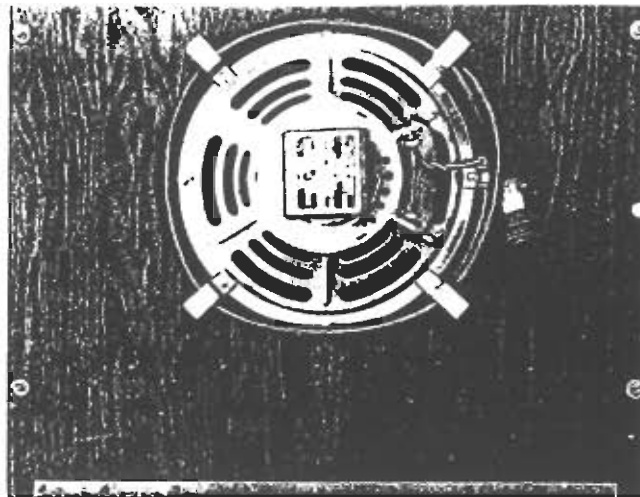
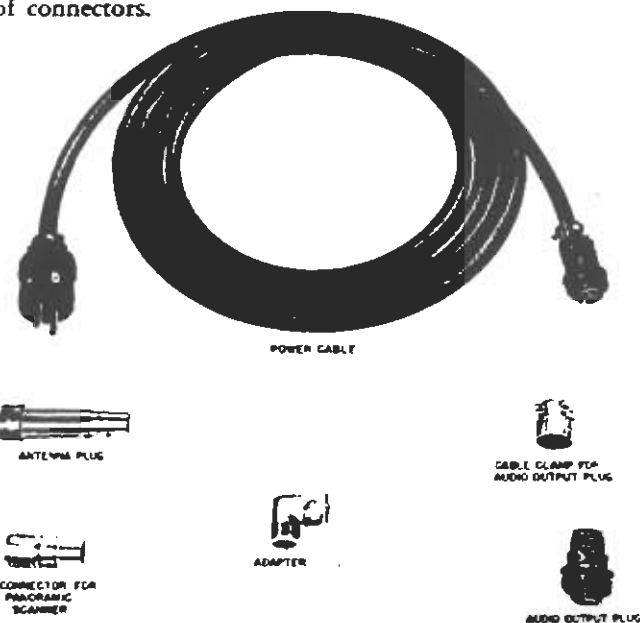

Figure 1-4. Loudspeaker LS-171/U.
Figure 1-5. Accessory Components.
(3) LOUDSPEAKER LS-171/U (See figure 1-4) is a 10 inch diameter cone, permanent magnet type speaker, rated at 5 watts average output. It mounts permanently in Case CY-851/TRR-5.
(4) CABLES.—Cables carried in Case CY-851/TRR-5 consist of a 10 foot Power Cable Assembly for connecting power from an external source to Radio Receiver R-366/TRR-5, and a 6 foot Cable Assembly for connecting the audio output to the Loudspeaker LS-171/U.
(5) Three connectors J-301, J-302, J-303 and an adapter E-301 are carried in the transit case. Connector J-301 is used to connect an antenna to the ANTENNA INPUT jack, J-101. Connector J-302 is used to connect a panoramic type analyzer to jack J-102, adapter E-301 may be used in conjunction with connector J-302 if found necessary. Connector J-303 is provided for alternate audio output operation. (See figure 1-5.)